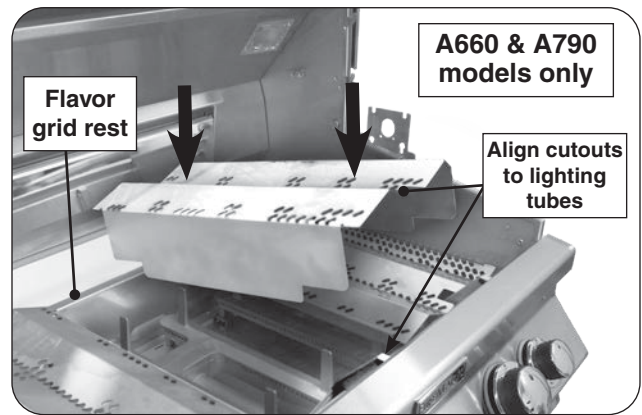

Fig. 22-3 Install flavor grids
**A660 and A790 models:** Place the flavor grids onto the front and rear flavor grid rests. Align the cutouts to the lighting tubes. See Fig. 22-3. **The short grids are designed to rest over the outer burners and the tall grid(s) over the inside burner(s).** The flavor grids allow heat from the burners to be evenly distributed throughout the cooking area.